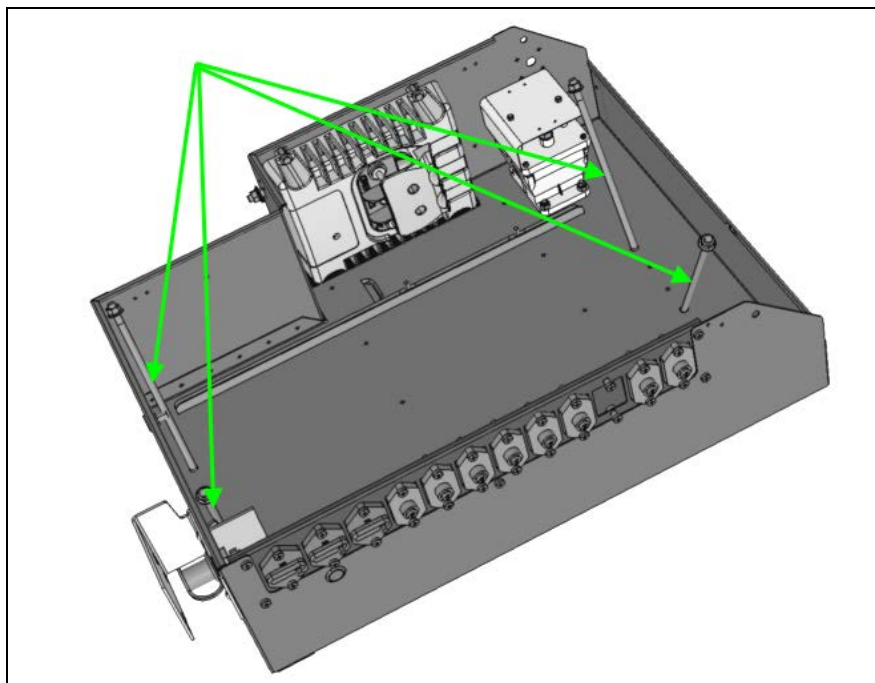

Fig.3 Retaining rods.
5. Remove the four (4) bars hold-down rods (Fig.3).
11. Reinstall the four (4) bars hold-down rods (Fig.3).